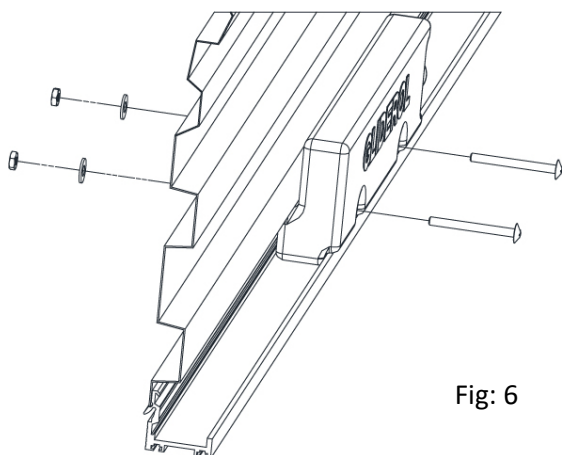

Fig: 6
- I) Locate the weight bar on the centre of the bottom rail and drill two locating holes through the holes on the weight bar into the bottom rail. Secure the weight bar with two bolts provided. (Fig 6)